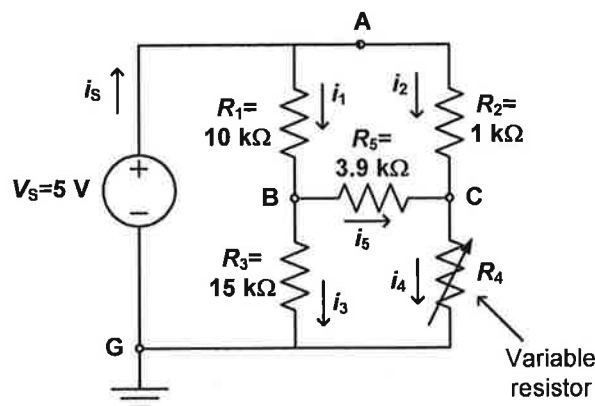

Figure 1. Wheatstone Bridge circuit.
**Pre-lab Assignment 1:** A Wheatstone bridge circuit is shown in Fig. 1. This circuit is said to be balanced Wheatstone bridge circuit when the current  $i_5=0$ . Determine the required relationship between the resistors  $R_1$ ,  $R_2$ ,  $R_3$ ,  $R_4$  and  $R_5$  needed to achieve this balanced circuit. (Hint: Note that  $i_5=0$  means  $V_B=V_C$ . That is, resistor  $R_5$  acts like an open circuit. This means one can remove resistor  $R_5$  from the circuit as if nodes B and C are not connected at all. This removal will simply the circuit and make it much easier to determine the relationship needed between resistors  $R_1$ ,  $R_2$ ,  $R_3$ , and  $R_4$  to achieve  $V_B=V_C$ .)
Construct the Wheatstone bridge circuit shown in Fig. 1 on your circuit board. Record the actual values of all the resistors used in your circuit. Note that the resistor  $R_4$  is a variable resistor. Use the following values for  $R_4$  (measure and record their actual values): (a)  $R_4=150 \Omega$ , (b)  $R_4=1.5 \text{ k}\Omega$ , and (c)  $R_4=15 \text{ k}\Omega$ . For each  $R_4$  value used, do the following:
Table 1. Measured node voltage and calculated current values (Figure 1 circuit with  $R_4 = 150 \Omega$ ).
Table 2. Measured node voltage and calculated current values (Figure 1 circuit with  $R_4 = 1.5 \text{ k}\Omega$ ).